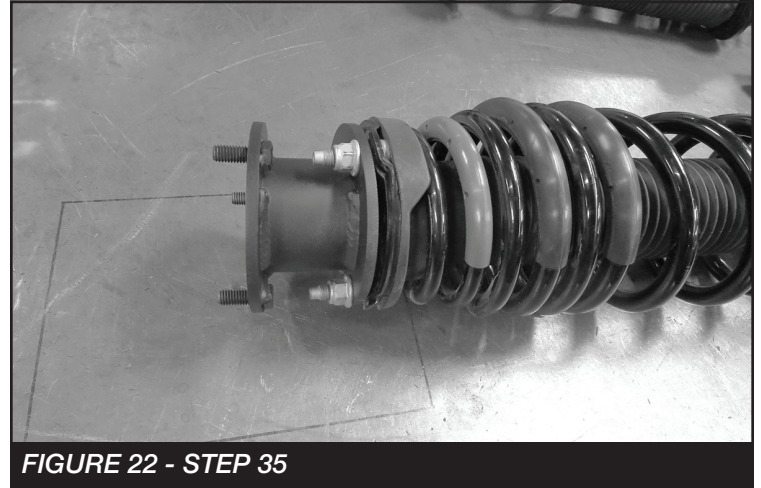

FIGURE 22 - STEP 35
35. Install FT31000 (Rear strut spacer) onto the top strut mount using the factory nuts. **NOTE: The smaller side of the angle should be installed on the front side. SEE FIGURE 22**